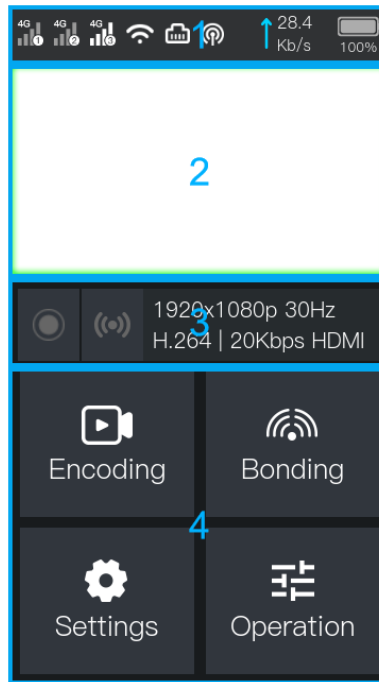

Figure 5: LCD Screen Main Interface
After the startup guide is completed, the P3 Mini's LCD display will show the main interface. This interface is divided into the top navigation bar (1), video preview area (2), bottom information bar (3), and operation menu (4) (refer to Figure 5).